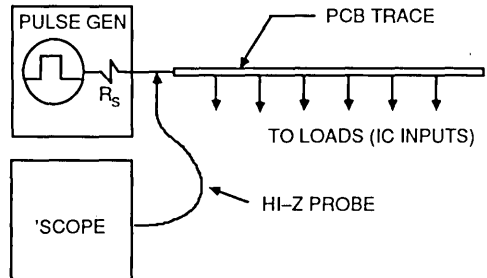

Figure 5. Test Set-Up for Measuring PCB Trace Parameters
b. Connect the pulse generator and the oscilloscope to one end of the PCB trace. Use a minimum of 9 inches of PCB trace. Insert the devices that will form the distributed load on the PCB trace. See Figure 5.